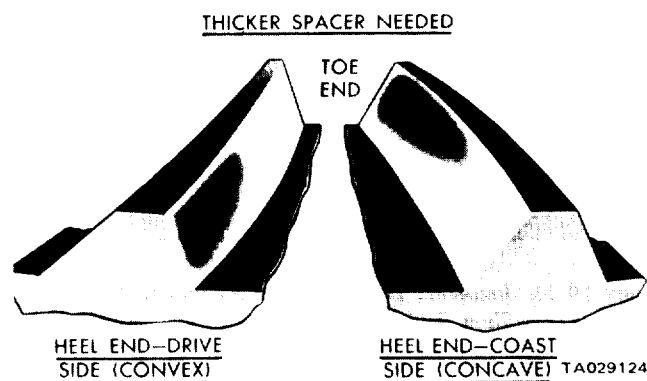
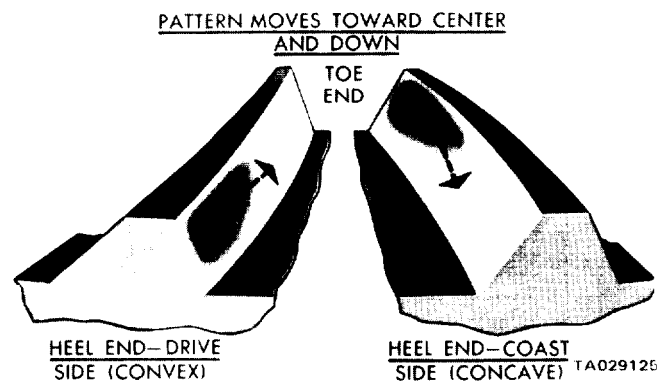

Figure 19-22. Incorrect Tooth Contact Pattern (Increase Shim Pack Thickness).
Figure 19-23. Effect on Tooth Contact Pattern as Shim Pack Thickness is Increased.
c. If after observing the contact pattern you find it resembles that in figure 19-22, the drive pinion is too far away from the centerline of the ring gear. The contact pattern will appear high on the heel on the drive side and high on the toe on the coast side. To correct this type of tooth contact pattern, increase the thickness of the shim pack located behind the rear pinion bearing cup (figure 19-23). This will cause the high heel contact on the drive side to lower and move toward the toe; high toe contact on the coast side will lower and move toward the heel.